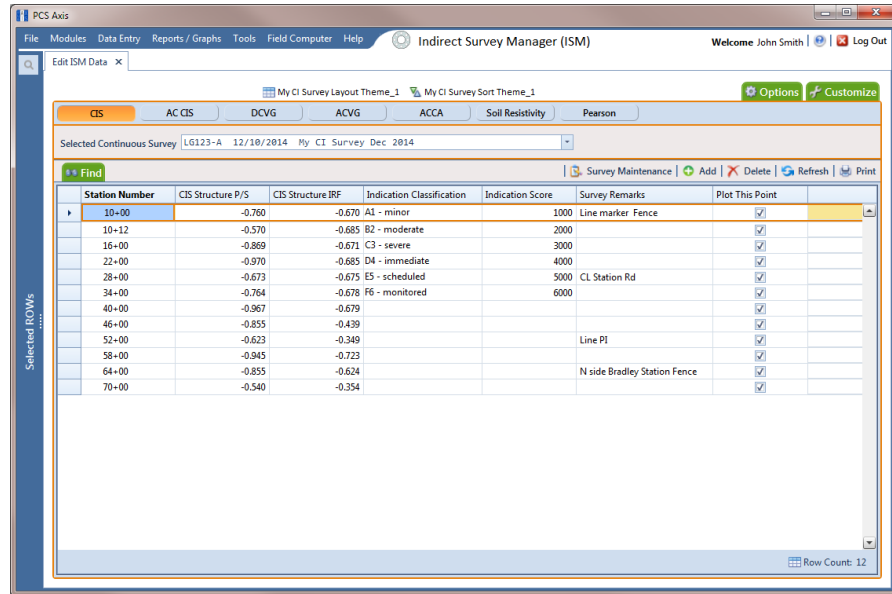

Figure 7-89. Edit ISM Data
- 3 Click **Data Entry > Edit ISM Data** to open the ISM data entry grid. Then click a button labeled with the type of continuous survey data you want to work with, such as the **CIS** button  (Figure 7-89).